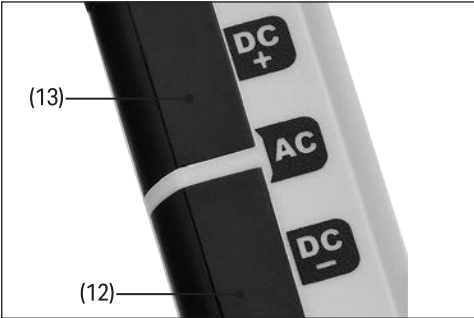

Fig. 4
7.1 AC/DC Polarity Measurement (Fig. 4)